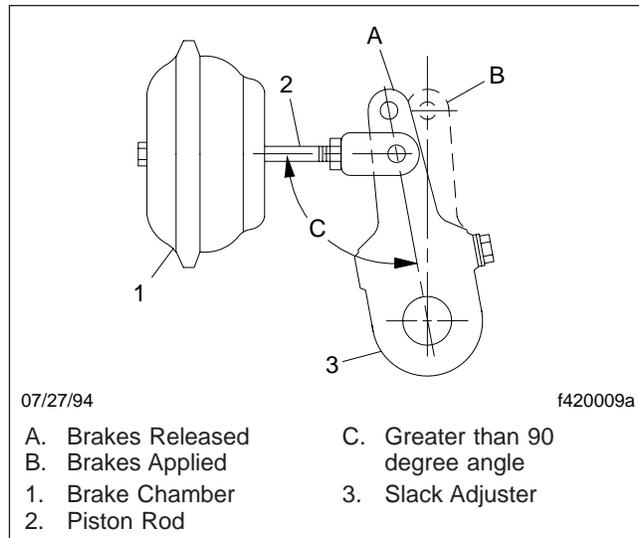

Fig. 1, Angle Between Piston Rod and Slack Adjuster
1. With the slack adjuster properly adjusted, check the angle formed by the centerline of the piston rod and slack adjuster. This angle should be greater than 90 degrees in the released position and approach 90 degrees in the applied position. See **Fig. 1**.